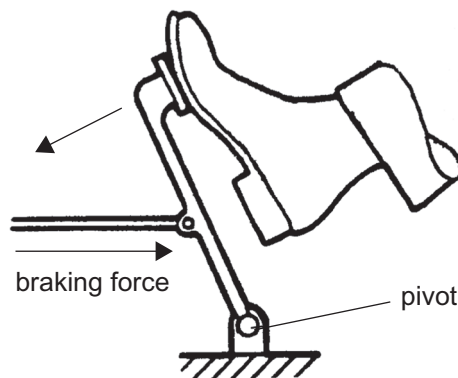

Fig. 1
- (b) **Fig. 1** shows a lever that is used to operate a foot brake.
- (ii) How could the design in **Fig. 1** be changed to give a greater braking force?